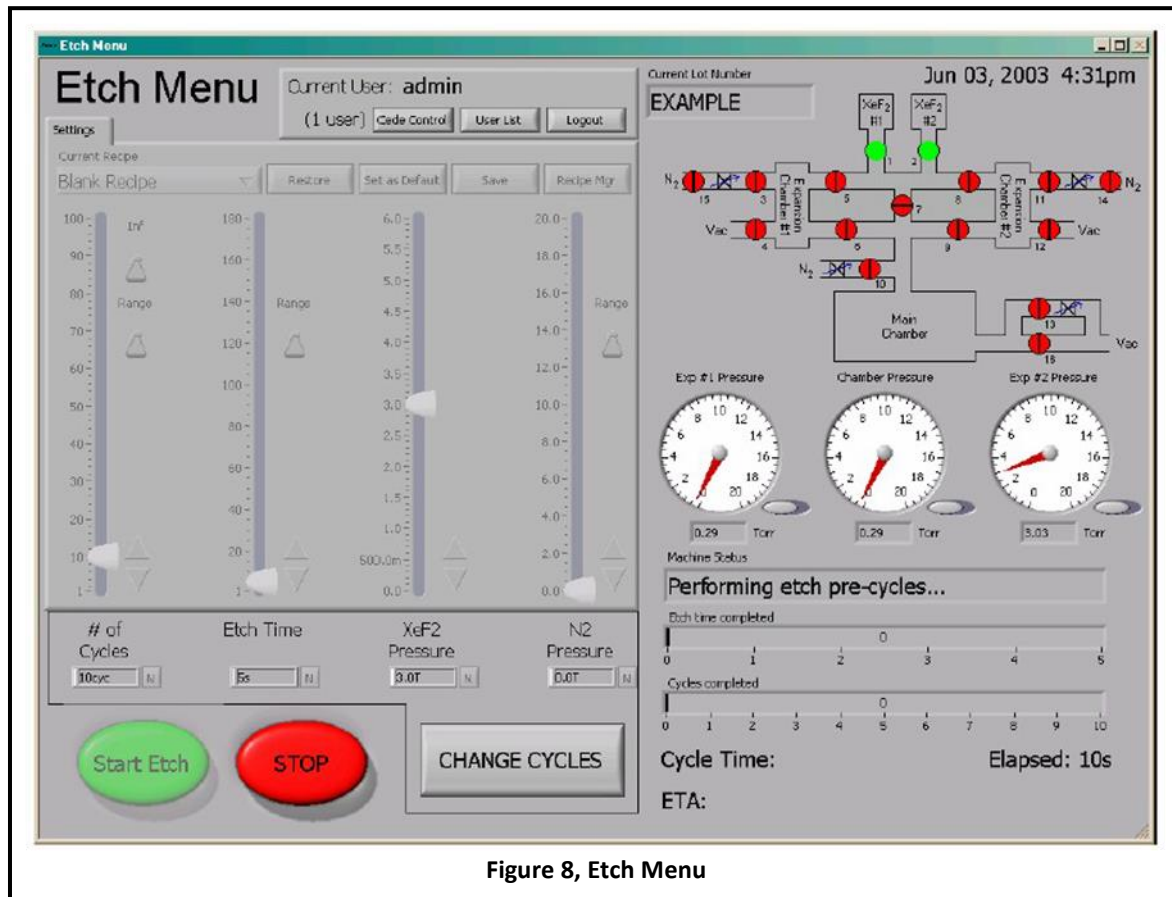

Figure 8, Etch Menu
- Figure 8, Etch Menu 7
7.3.1 Select a recipe from the drop down menu, labeled “current recipe” at top left of the screen. See *figure 8*). See *Table 1, Recipe Parameters*.
7.3.2.1 Change the number of cycles on the Etch Menu to increase/decrease total etch time. See *Figure 8, Etch Menu*.